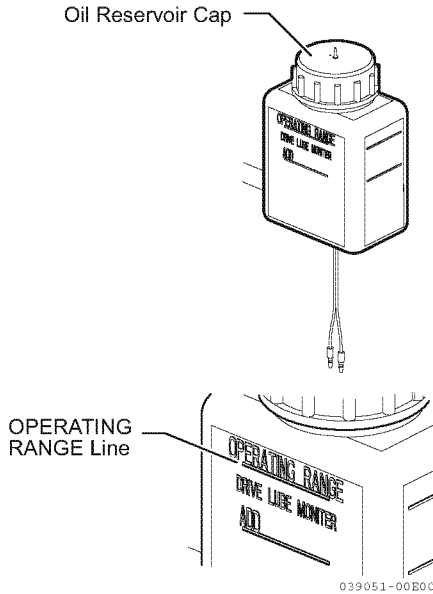

Figure 13
13. Fill the oil reservoir so that the oil level is within the operating range (**Figure 13**).